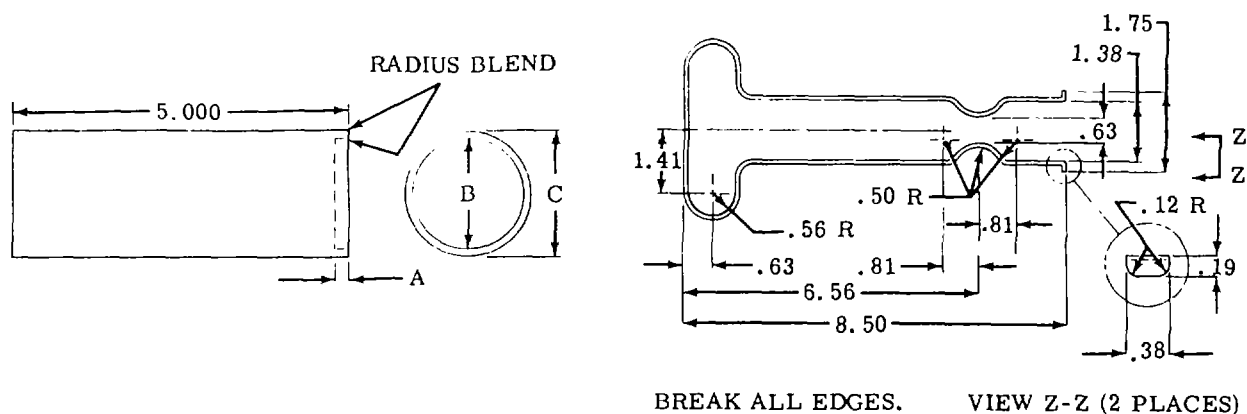

Figure 4-35. Service Tools
- b. The seal driver can be made from round stock machined as shown in Figure 4-35.
- c. The adapter extractor (p/n 322457 [32705]) may be purchased, or fabricated as shown in figure 4-35.
- e. Carefully pull the rotor (8) and vanes (9) assembly halfway out of ring (10) and install the ring compressor. Compress the vanes (9) into rotor (8) and remove this assembly from ring (10). Release the ring compressor and the vanes (9) and springs (11) can be removed from rotor (8).
- f. Separate the ring (10) from pressure plate (12) and remove pins (13).
- g. Remove o-rings (14, 15) from body (27). Remove key (16) from shaft.
- h. Using the adapter extractor (see figure 4-35), carefully pull the hub adapter (17) from the body. The extractor tool engages between the bearing (22) and the adapter (17).
- i. Remove the o-ring (18) and back-up ring (19).
- j. Remove the lock ring (20), then tap the shaft (21) and bearing (22) out of the body (27).
- k. Support the bearing (22) inner race in an arbor press, remove snap ring (23) and press bearing off shaft.
- l. Remove washer (24), seal (25) and wiper (26) from body (27).
- a. Install the wiper (26) in body (27). Grease the shaft seal (25) and press it into the body using seal driver (see figure 4-35). The spring on seal must be toward the bearing (22). Place the washer (24) in the body against the seal.
- b. Support the bearing (22) inner race and press in the shaft (21). Install snap ring (23).
- c. Lightly tap the shaft and bearing (21, 22) assembly into the body (27) with a plastic hammer. Install the lockring (20) to secure shaft. Be sure the lockring is properly installed.